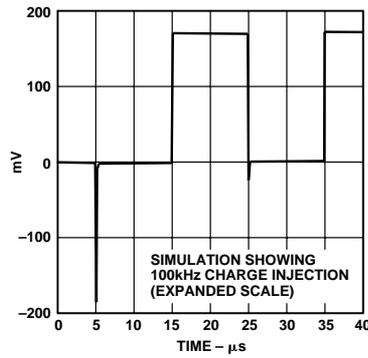

Figure 11. Output of simulation to show the effect of charge injection switching at 100 kHz.
A. The most efficient way to evaluate a switch’s charge injection performance is to use a setup similar to the one shown below. By turning the switch on and off at a relatively high frequency (> 10 kHz) and observing the switch output on an oscilloscope (using a high impedance probe), a trace similar to that shown in Figure 11 will be observed. The amount of charge injected into the load is given by $\Delta V_{OUT} \times C_L$. Where ΔV_{OUT} is the output pulse amplitude.